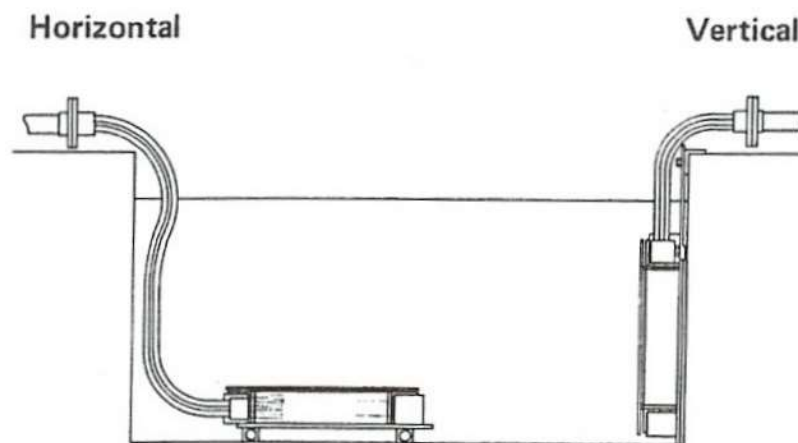

Figure 2: Position of Nautilus in tank
- The Nautilus is specially designed for use in either a vertical or horizontal position (see figure 2).
Note: Nautilus flanges are constructed of a composite set of polymers and should not be immersed in the liquid or connected in a position that the flanges will be subjected to vapours or condensation from the liquid to be heated or cooled. **It is recommended that the flanges are connected clear of the tank as shown in figure 2.**